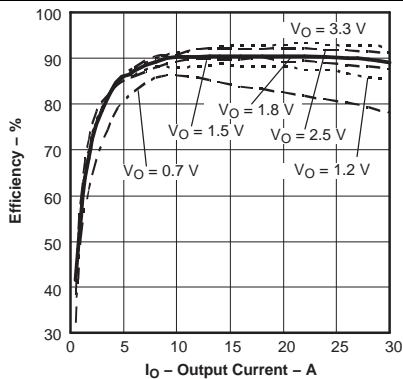
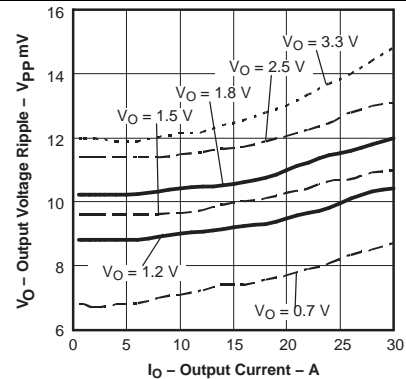
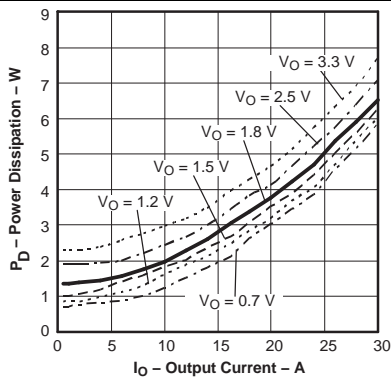

Figure 1. Efficiency vs. Output Current
Figure 2. Output Voltage Ripple vs. Output Current
Figure 3. Power Dissipation vs. Output Current
- (11) The electrical characteristic data has been developed from actual products tested at 25°C. This data is considered typical for the converter. Applies to Figure 1, Figure 2, and Figure 3.